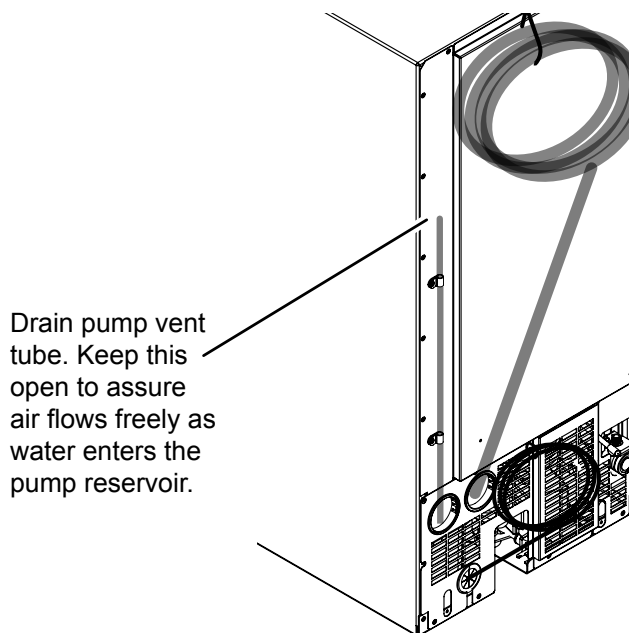

Figure 14: Location of vent tube.
- d. The vent tube on the back of the unit is open (Figure 14).